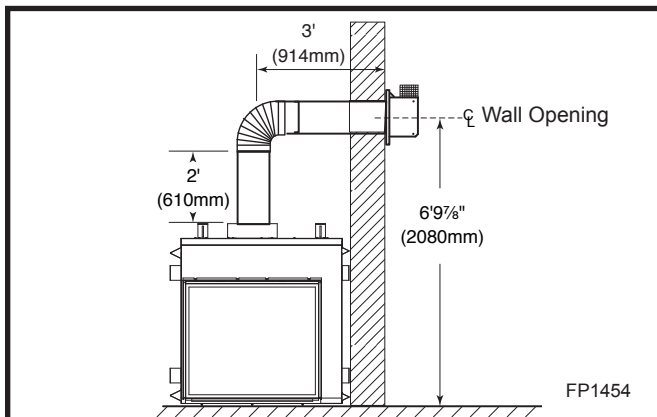

Fig. 16 Minimum vertical run / maximum horizontal run.
- The maximum number of 90° elbows per side wall installation is three (3), but must not have two (2) consecutive elbows in the horizontal plane.
- A minimum of 2' (610 mm) vertical section off the top of the unit is required, an elbow and a 1' (305 mm) maximum horizontal run to get through a wall. (Fig. 16)
- The maximum number of 45° elbows permitted per side wall installation is two (2). These elbows can be installed in either the vertical or horizontal run. (Fig. 16)